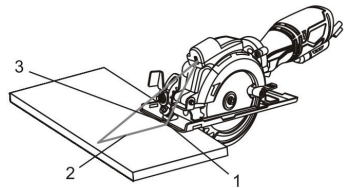

Fig.10
**NOTE:** To align the saw blade with the cutting mark, use the guide marks on the front of the sole plate (Fig. 10). Use the 0° cutting mark (1) and the laser line (2) for right angle cuts. Use the 45° mark (3) for 45° bevel cuts. The 45° mark will allow for the extra material needed for the angle cut. Always make a test cut on a scrap workpiece before cutting the new material.